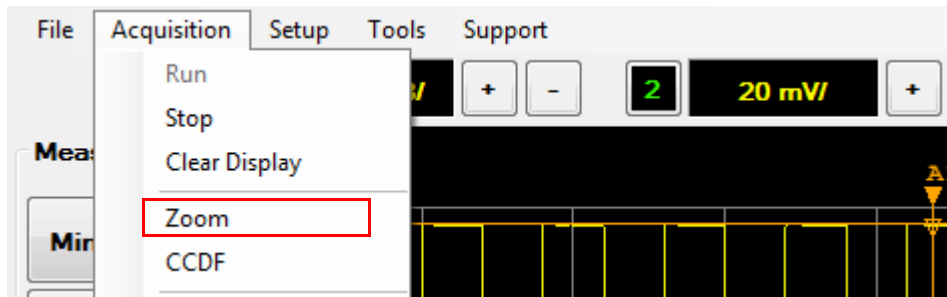

Figure 2-59 Zoom selection in the Acquisition menu
- 1 Select **Acquisition > Zoom** on the toolbar as shown in Figure 2-59.